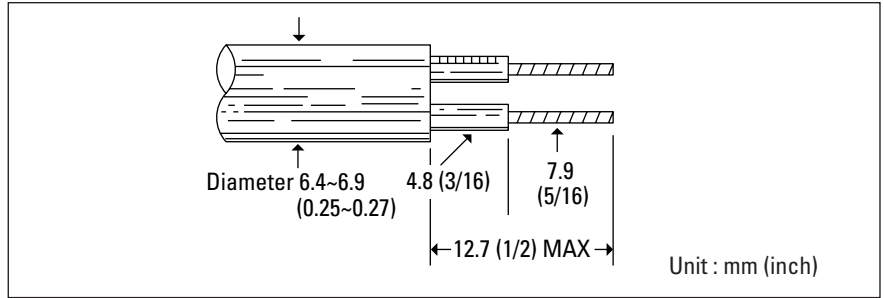

Figure 2-10
- ① Feed the end of the cable through the backshell, rubber grommet and coupling ring in the order and position drawn.
- ② Strip the cable as shown in Figure 2-10. Begin soldering the conductors to the connector pins, as shown in the appropriate diagram for the NMEA connectors. Verify that each connector is firmly soldered and that no stray wires are shorting adjacent pins.